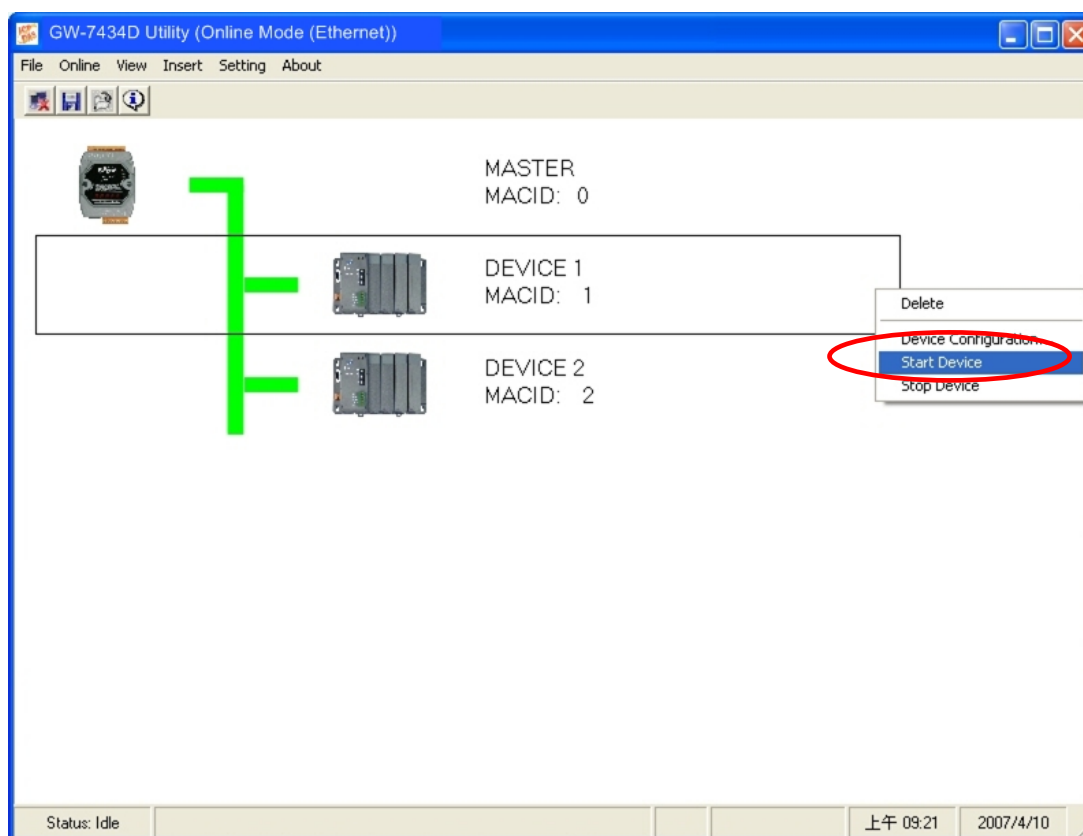

Figure 5-24: Start/stop communicating with DeviceNet devices
1. Click left of the mouse button on device that you want to start or stop. Select the “Setting” item on the menu bar, or click right of the mouse button on the device, then click the “Start Device” item or “Stop Device”. Then the GW-7434D will start/stop to communicate with the DeviceNet device. As shown in figure 5-24.